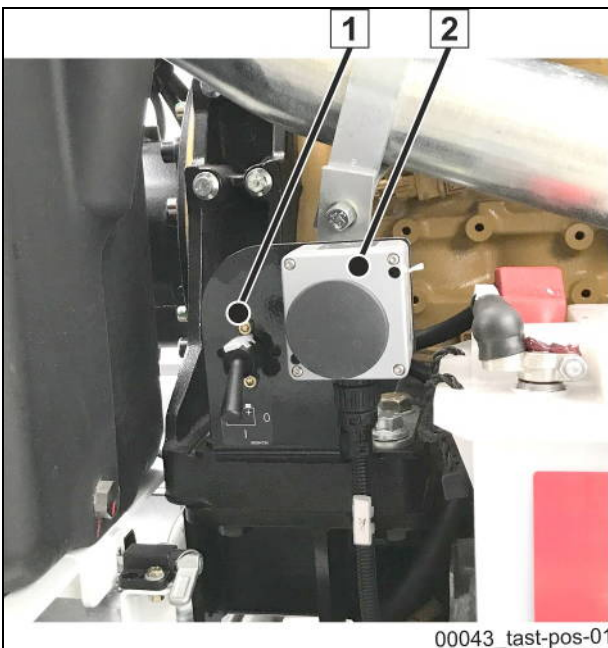

Fig. 7; control panel with regeneration.
- Turn the key of the starter switch (12) (Fig. 7) anti-clockwise.